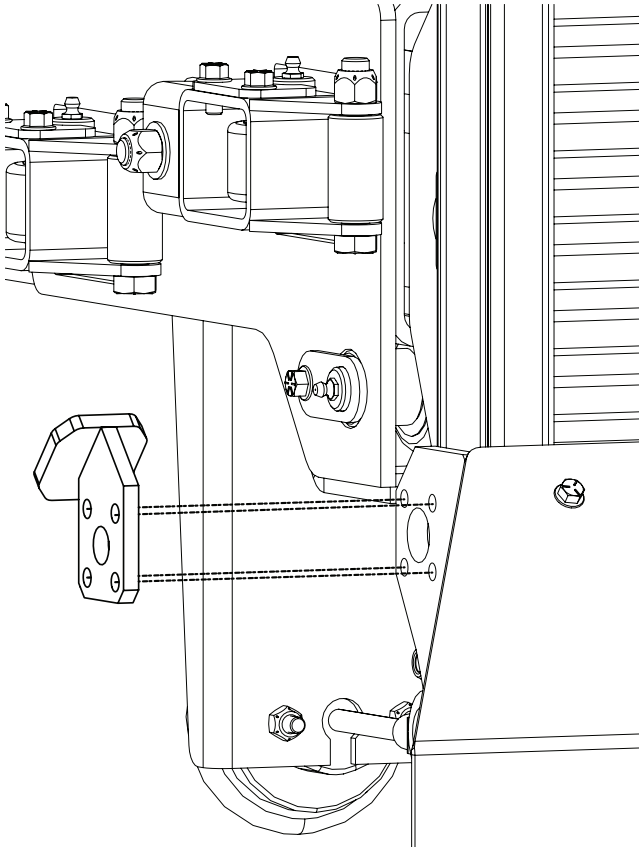

Figure 3
8. Remove and retain the stop bracket (either upper or lower) that secures the roller to the arm (Figure 3). The upper brackets have an angled bump stop; the lower brackets do not.